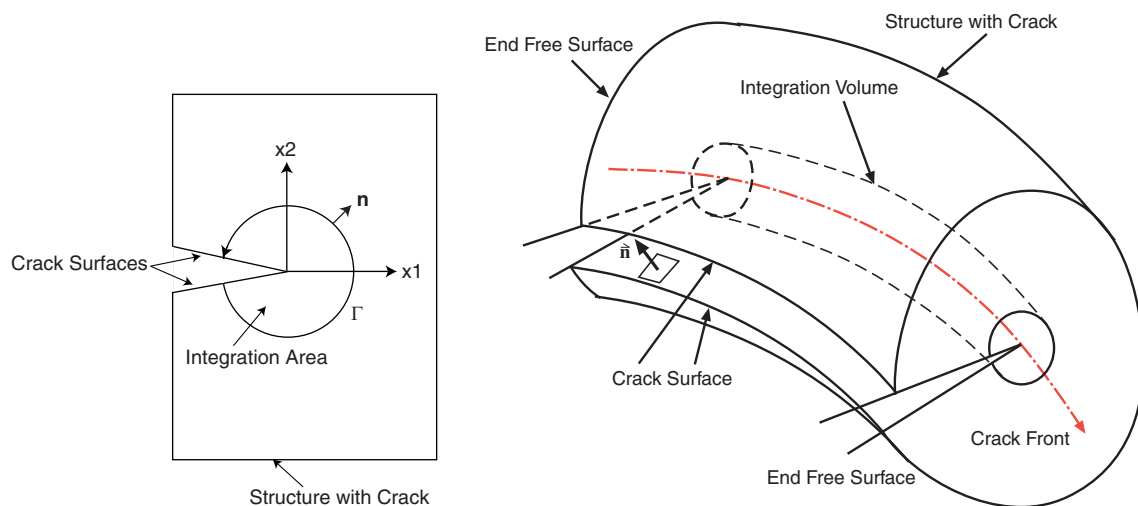

Figure 20 Schematic of a crack definition: (left) two dimensions and (right) three dimensions
- 1 is the direction of the crack propagation (this is orthogonal to the plane containing the crack normal and the crack front as shown in Figure 20).
As shown in Figure 20 on page 115, a crack has a fractured front (*crack tip* or *crack front*), which is the end of two open cracked surfaces. If the stress intensity exceeds the material toughness, the cracked surfaces extend, thereby releasing the strain energy.